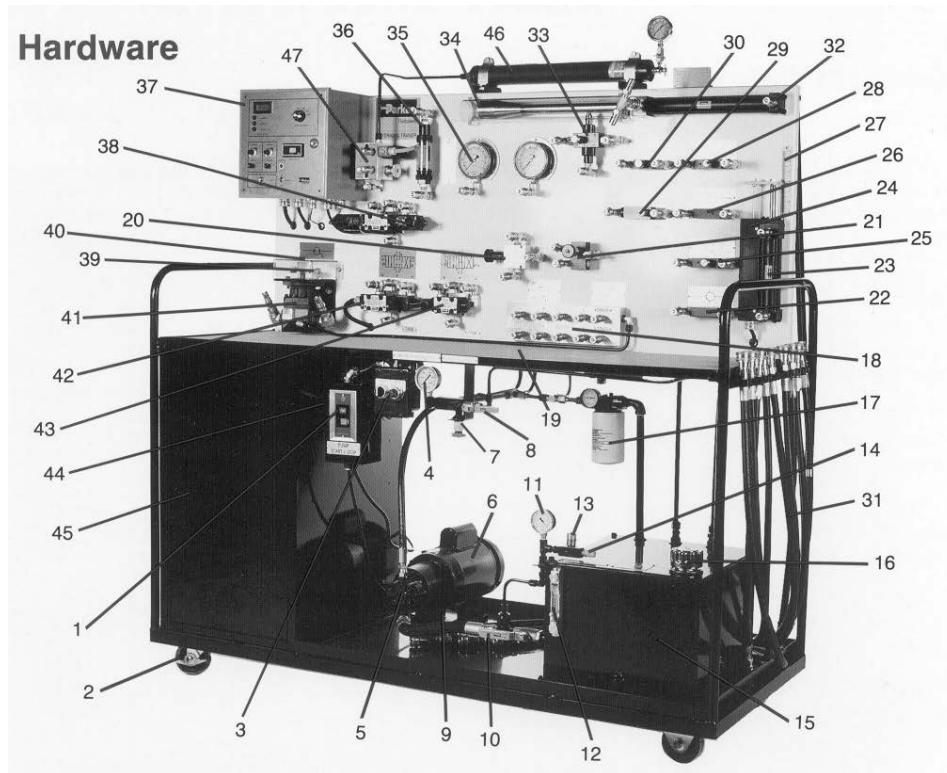

Figure 1 Parker Hannifin Hydraulic Trainer Stand Schematic
A diagram of the trainer stand appears in Figure 1. For this exercise we will be using the lever actuated directional control valve (43) to control the motor (41). A similar procedure would be followed if one were to use a different valve or actuator.